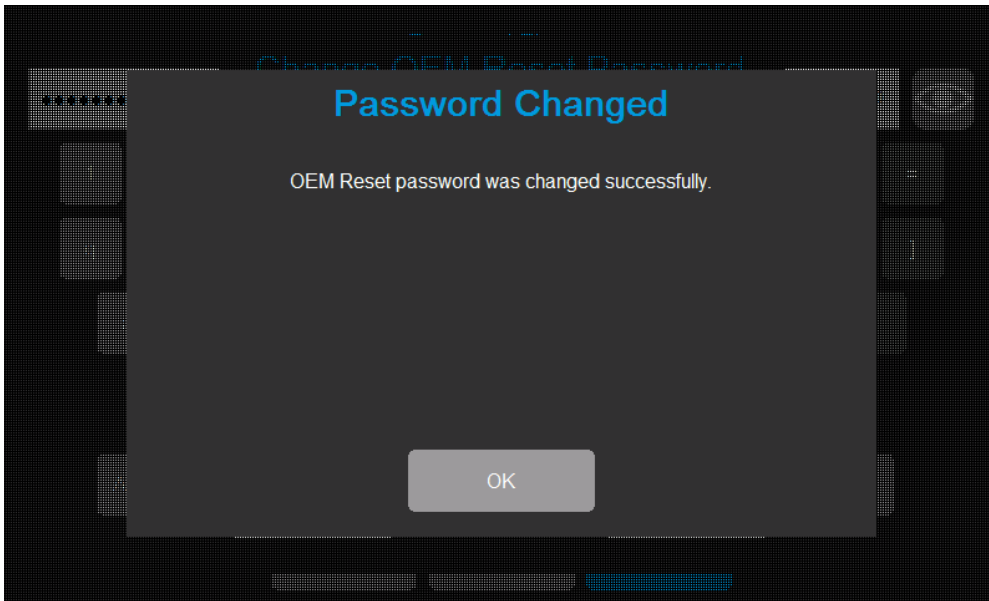

Fig. 85: OEM Reset Password Changed confirmation dialog box.
7. When the OEM Reset Password has been changed, the acknowledgement dialog box will appear. Refer to Fig. 85. Select OK to exit this mode.